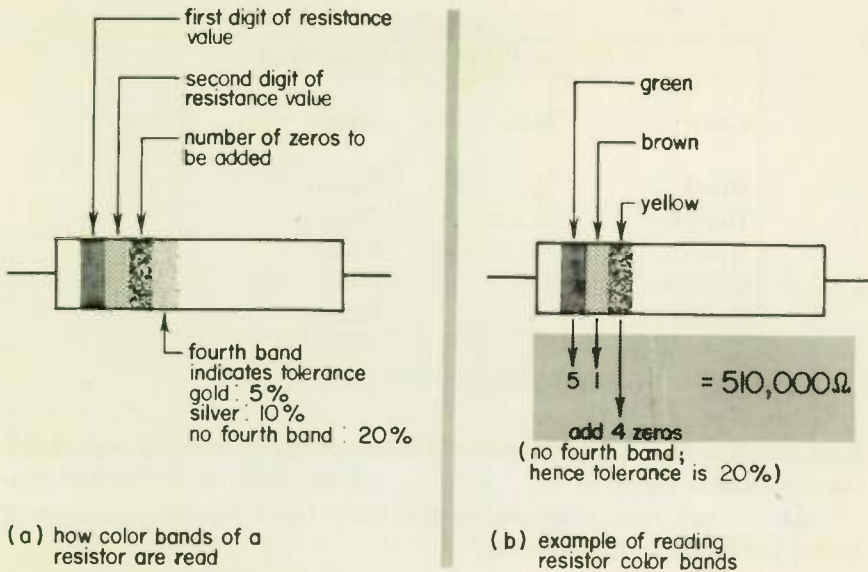

Fig. 26 Resistor color bands.
17 RESISTOR COLOR CODE... Carbon resistors are coded by color bands to indicate resistance values in ohms. The numerical values assigned to the different colors are given in Table 1. Figure 26 shows
how the bands are read and also gives an example. Note the use of a fourth band to indicate tolerance when the tolerance is other than 20 per cent. To read a resistor, always turn it so that the ends with the color bands are to your left, as in Fig. 26. Then read the bands from left to right.
1. A resistor has the following color bands: gray, red, orange, gold. Its resistance value is (a) 82 K ohms, and its tolerance is (b) ± 5 per cent. (Remember the third band tells the number of zeros! Look at Fig. 26(b) again.)